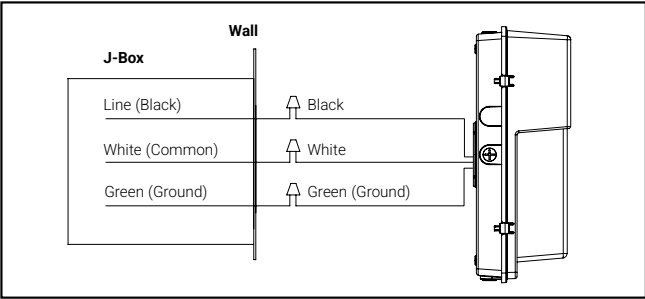

Figure 5
7. Splice the branch circuit power leads to the fixture power leads, black to black (hot), white to white (neutral), and green to green (ground). (Figure 5)